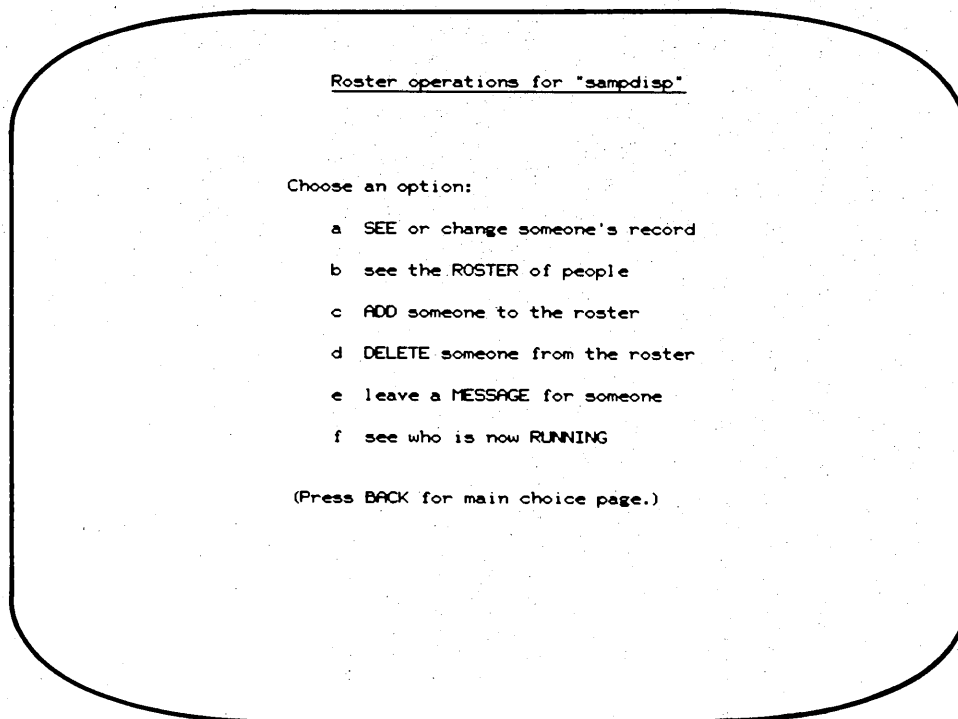

Figure 5-2. Roster Operations Display
2. Select ROSTER option by typing the number in front of it. System displays another set of options for roster operations (figure 5-2).